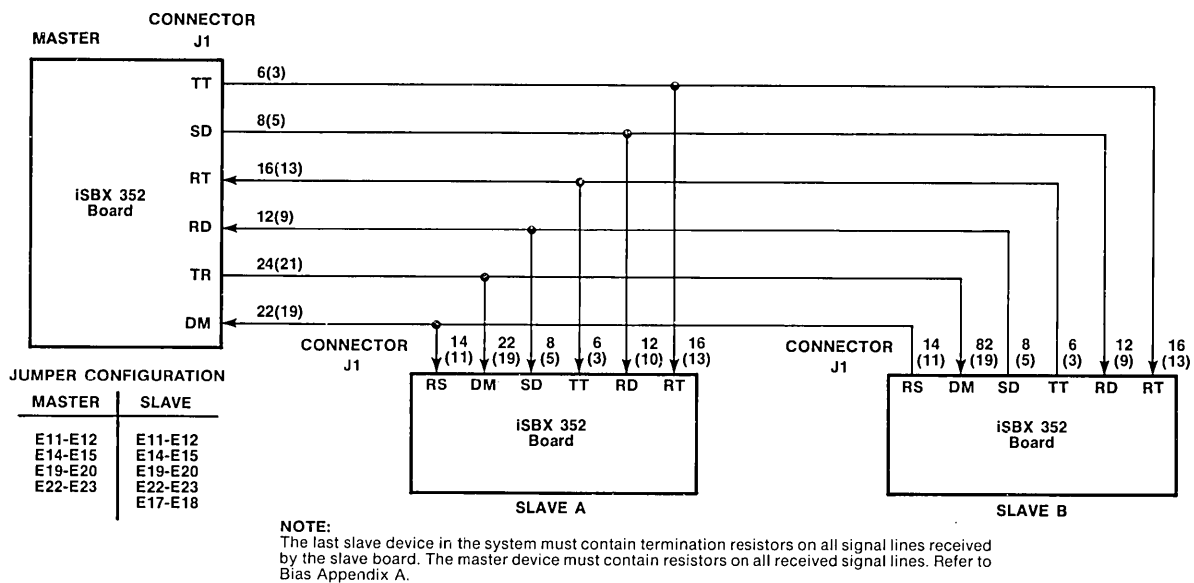

Figure 2-4. Synchronous Multidrop Network Configuration Example - RS422
**2-14. MULTIDROP NETWORKING APPLICATION (Synchronous.)** Figure 2-4 shows a typical synchronous multidrop application. In a Multidrop application, the iSBX 352 board must be operating with an RS422/449 interface so that the non-participating units can be tri-stated. In Figure 2-4, each signal line represents a cable pair; the B